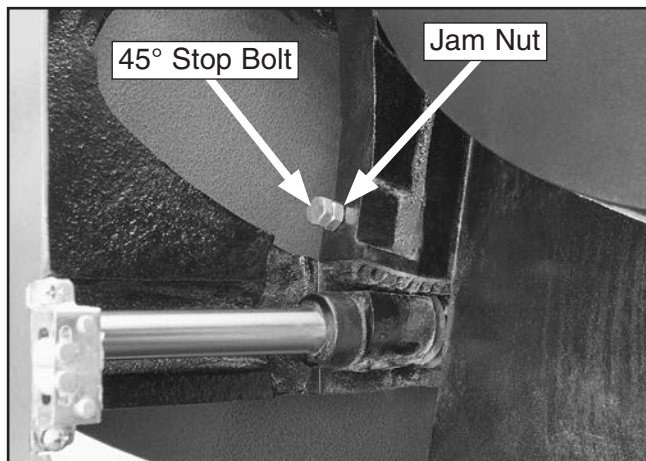

Figure 103. 45° stop bolt and jam nut.
6. Loosen the jam nut on the 45° stop bolt (see **Figure 103**) then adjust the stop bolt in or out according to how far off the blade was from 45°.